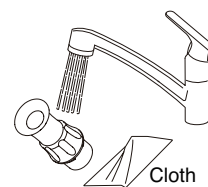

Fig.5-4 Surface cleaning
- A. Wipe off the surface contamination by a cloth while rinsing the surface by running clean warm water at 40 ± 5 degrees. (**Fig.5-4**)